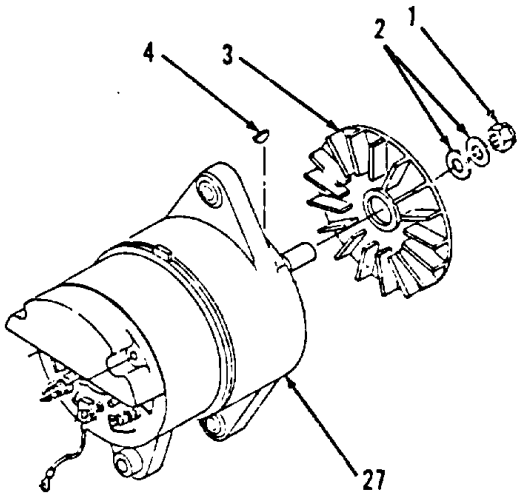

Figure 4-19.
- 2. Remove nut (1), two washers (2), fan (3) and key (4) from inner frame (27, Figure 4-19).